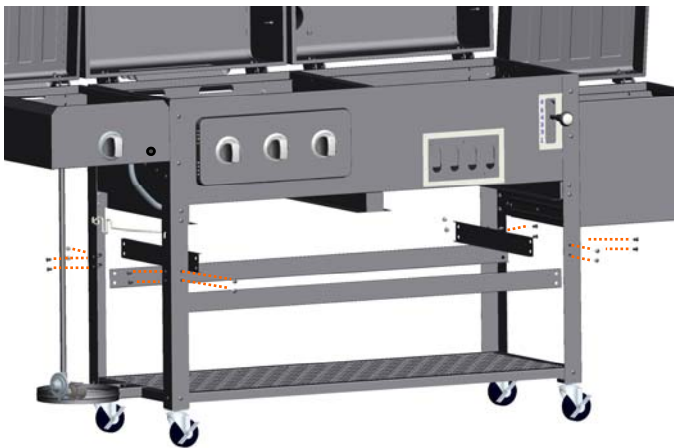

Fig.18
Procedure: Attach the four pieces by aligning the holes at the end of each piece with the corresponding holes in each leg and inserting (2) M6x15 bolts at each end. See figure 18.